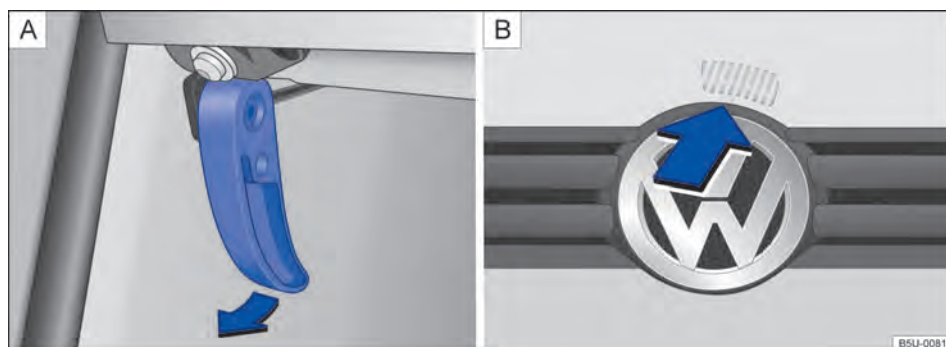

Fig. 185 **A** Bonnet release lever on the driver side footwell. **B** Bonnet release lever on the inner side of the bonnet.
- Ensure that the windscreen wiper arms are positioned on the windscreen before opening the bonnet → ①.
- Pull the release lever in the direction of the arrow → Fig. 185 [A]. The bonnet is released from its lock by a spring mechanism → ⚠.
- Slightly lift the bonnet and press the release lever → Fig. 185 [B] located on the inner side of the bonnet simultaneously, in the direction of the arrow, to open the bonnet.